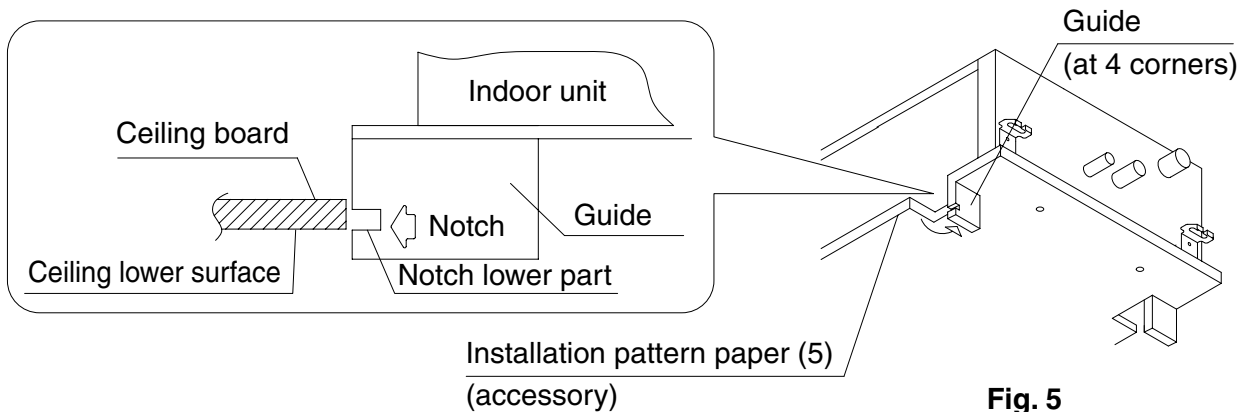

Fig. 5
- Fold the guides (4 places) shown in the installation pattern paper (5). Adjust the indoor unit height from the floor level so that the ceiling lower surface and the notch lower part will match together. **(Refer to Fig. 5)**
- Cut off the guides from the installation pattern paper (5) and place the guide to the indoor unit bottom. Adjust the unit height from the floor level so that the ceiling lower surface and the notch lower part will match together. **(Refer to Fig. 5)**